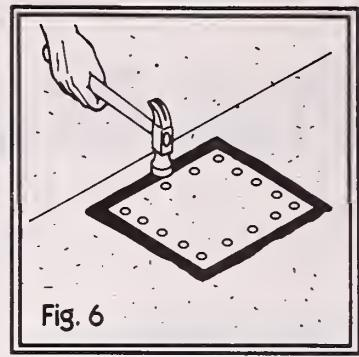
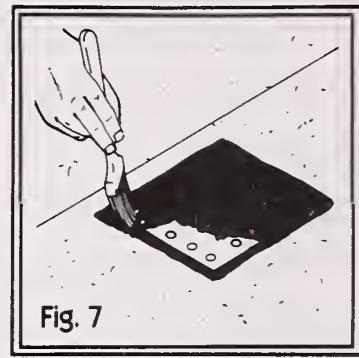

Fig. 6
Fig. 7
3. Cut a piece of roofing felt a little larger than the crack. Place it over the cement and press it firmly in place. Nail the edges on the felt piece, spacing the nails 1 to $1\frac{1}{2}$ inches apart (fig. 6). Spread another layer of cement over the felt piece. Make sure the cement extends 1 to $1\frac{1}{2}$ inches beyond all edges of the felt piece (fig. 7).
Place the oversized felt strip over the cement and press it firmly in place. Using broad-head roofing nails, nail the strip along all four edges. (Similar to fig. 6.) Then cover the strip with cement, making sure that the cement extends 1 to $1\frac{1}{2}$ inches beyond all edges of the strip. (Similar to fig. 7.)